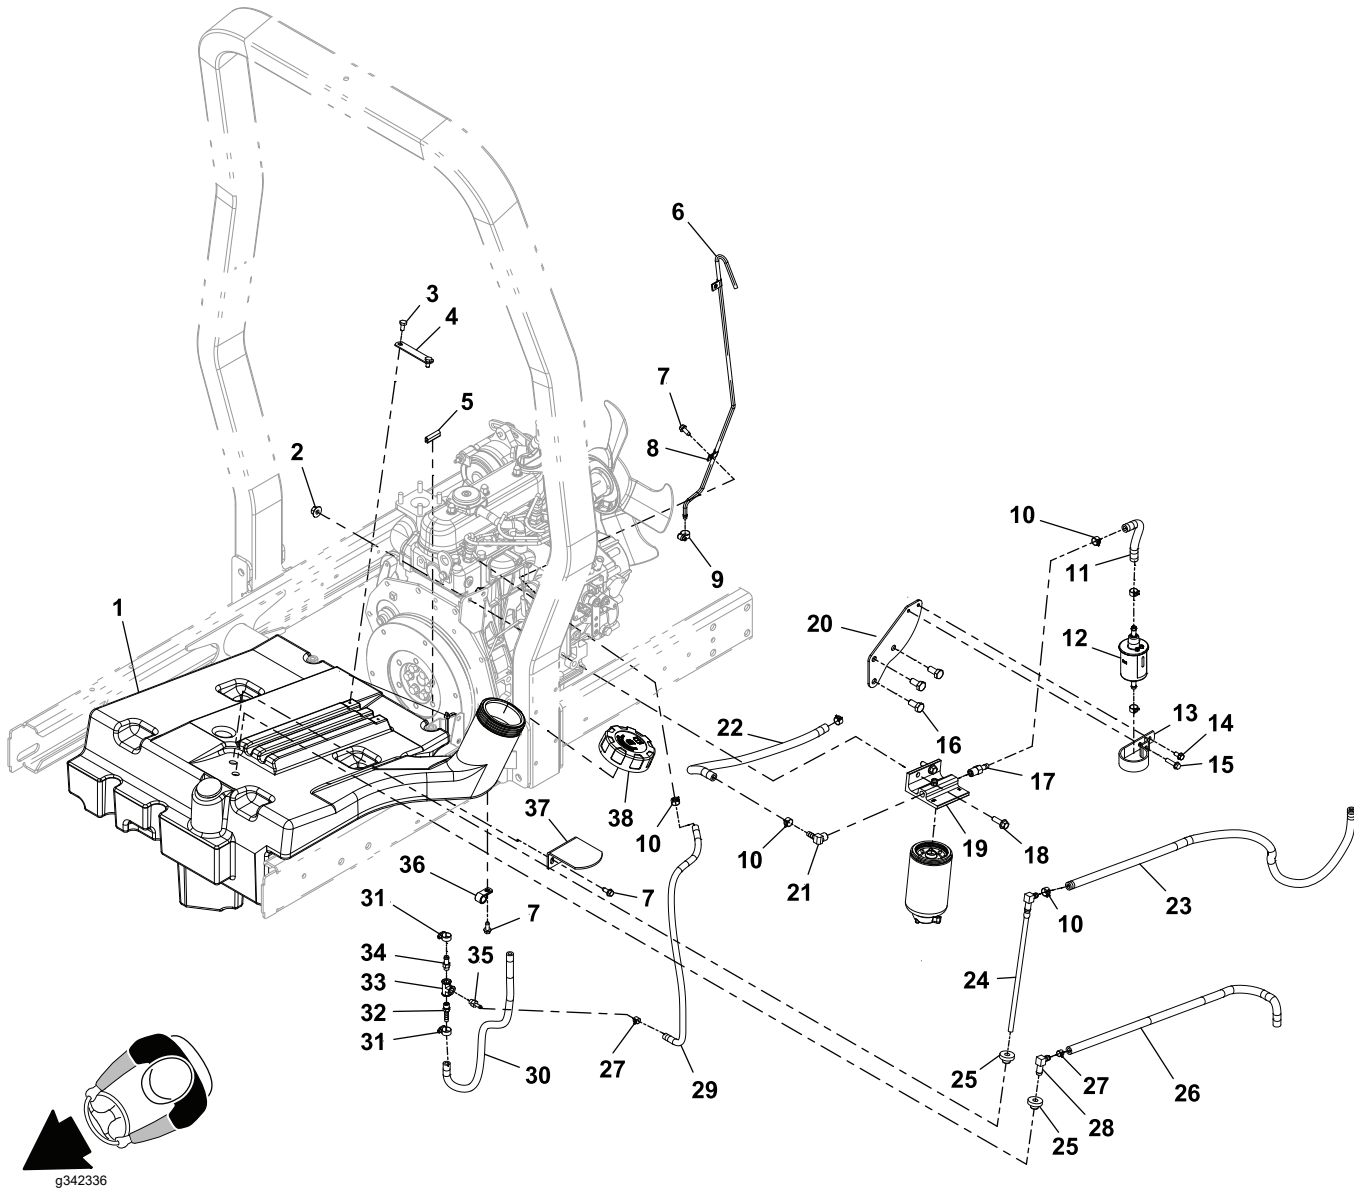

Figure 14
6. For assembly purposes, label fuel hoses. Remove the fuel hose strap and both fuel hoses from the fuel tank. Pull the fuel tank from the machine; refer to Figure 14.
2. Using labels placed during fuel tank removal, connect both fuel hoses to the tank and secure with the hose clamps and fuel hose strap; refer to Figure 14.